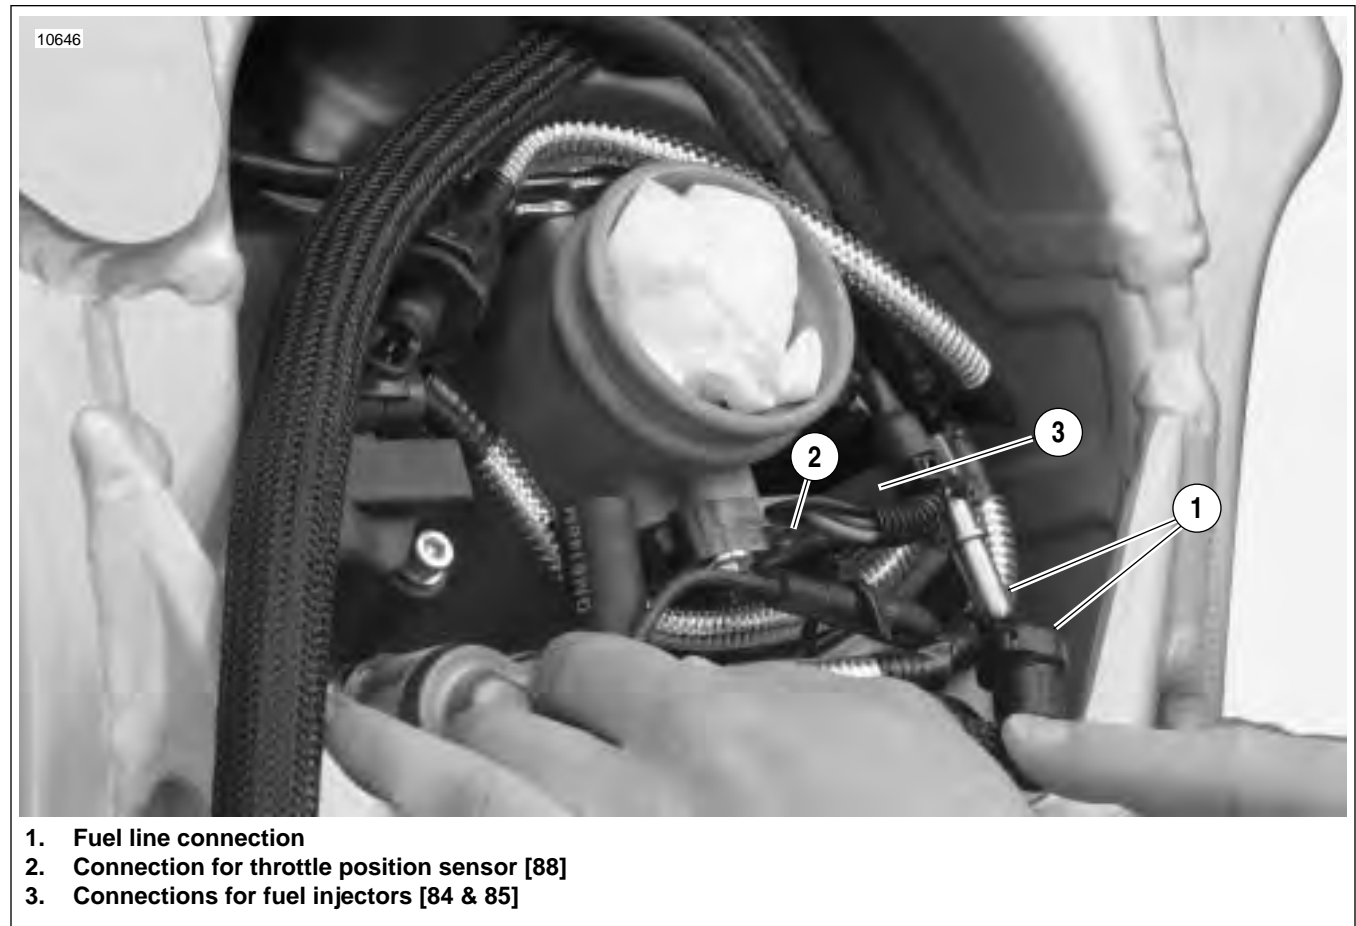

Figure 3-56. Fuel Line and DDFI Electrical Connections (Typical)
- 39. See Figure 3-56. Connect throttle position sensor [88].